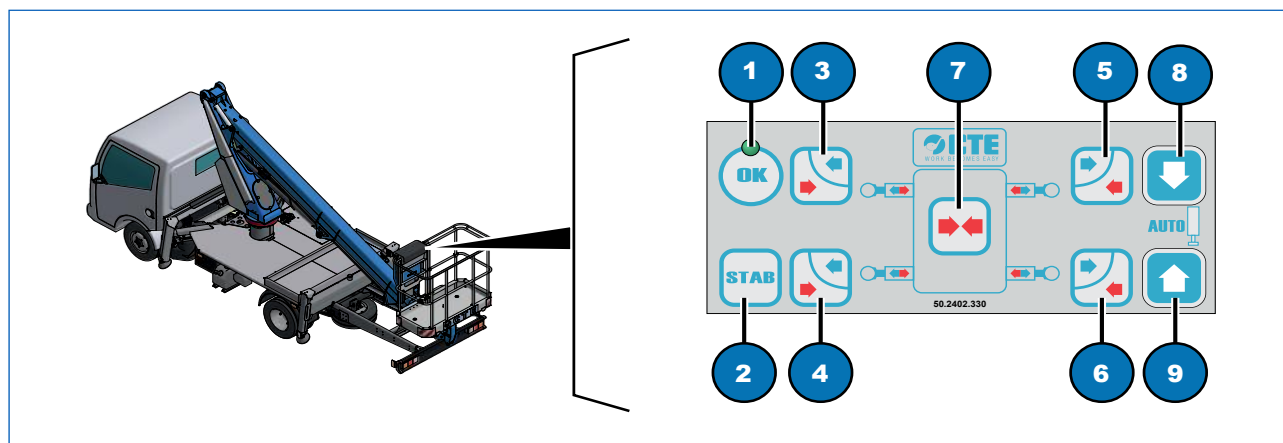

Fig. 15.3
The platform can be equipped with automatic stabilization which involves replacing the hydraulic distributor with an electro-hydraulic distributor, in a frame, and the assembly in the basket of an electric control panel (Fig. 15.3). The electro-hydraulic distributor allows the stabilizers to be operated both by means of levers and by an electric control.
Procedure (Fig. 15.3):
- press the STAB button (Fig. 15.3, 2) to start the vehicle's motor;
Keep the STAB button (Fig. 15.3, 2) pressed for the entire time the elevating platform is being stabilised.
Release the button only once stabilised (OK LED, Fig 15.3, 1, lit up).
- Extend the stabiliser beams by operating the buttons in turn (Fig. 15.3, 3, 4, 5 & 6). The same buttons (Fig. 15.3, 3, 4, 5 and 6) also control the retraction of the beams if pressed along with the central button (Fig. 15.3, 7).
- Extend all stabiliser beams by pressing the button (Fig. 15.3, 8) so as to lift the vehicle and take the weight off the suspension;
- Check that the indicator light is on (Fig. 15.3, 1), indicating the proper stabilisation of the vehicle.